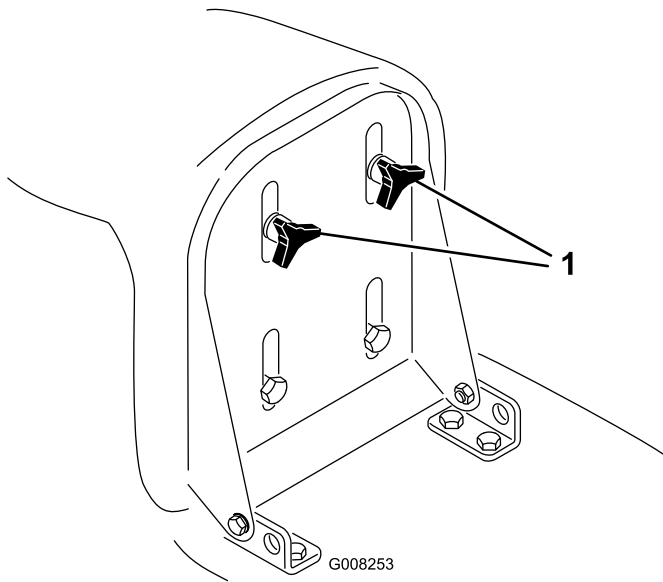

Figure 6
1. Raise the seat and loosen the adjustment knobs (Figure 6).